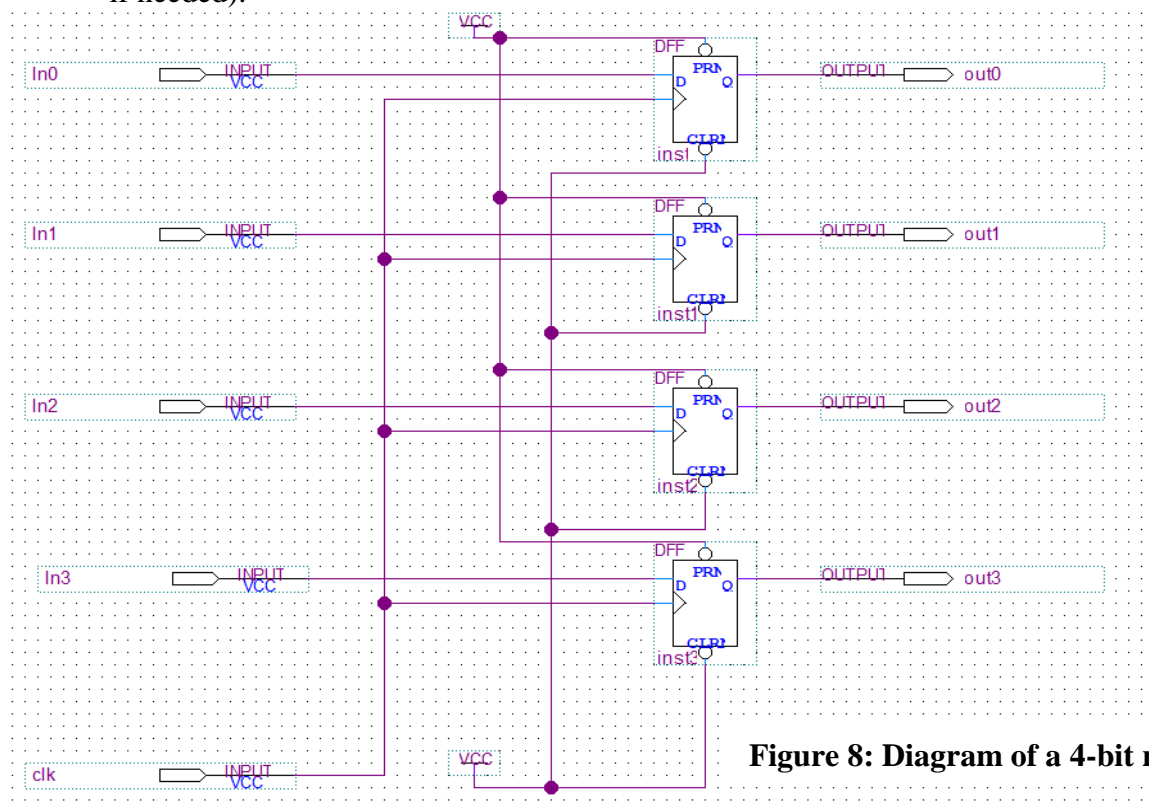

Figure 8: Diagram of a 4-bit register
- 6.1. Use Quartus II to capture the following graphic file of Fig. 8, which implements a 4-bit register. Use D-type flip-flops (symbol “dff”). Save your file under the name “register4bits.bdf” (using standard names will help your TAs to check your circuit if needed).